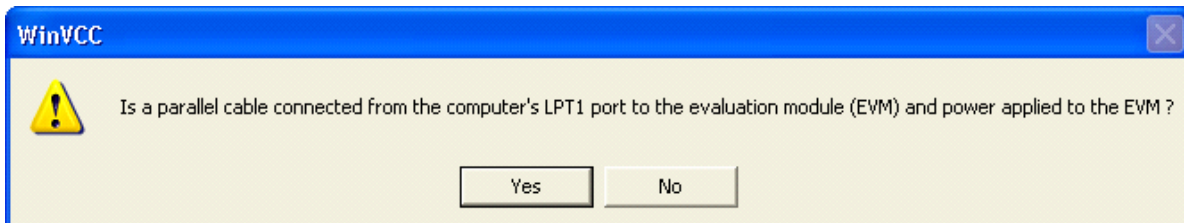

Figure 23. Corrective Action Dialog Box
After closing the I²C system test report dialog box, a dialog box (see Figure 23) appears.
- b. The dialog box shown in Figure 23 appears instructing you to correct the problem.